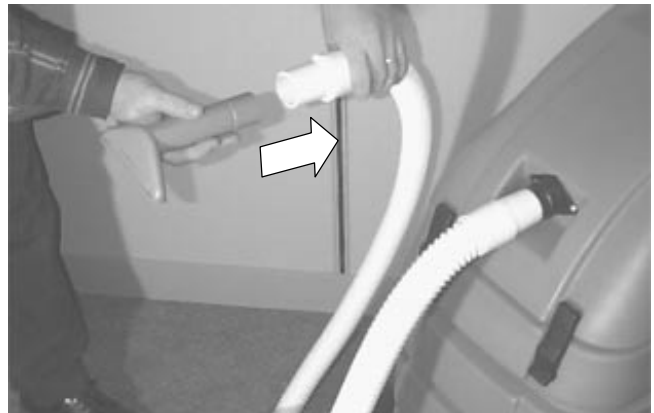

FIG. 7
2. Connect desired accessory tools to vacuum hose (Figure 7).